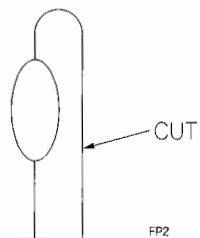

Figure 8-52. Jumpers
4. Using a pair of side cutters, cut one lead of each of the jumpers, as shown in Figure 8-52. Form the leads so the cut ends can not make contact with each other or with any other components on the PCA.